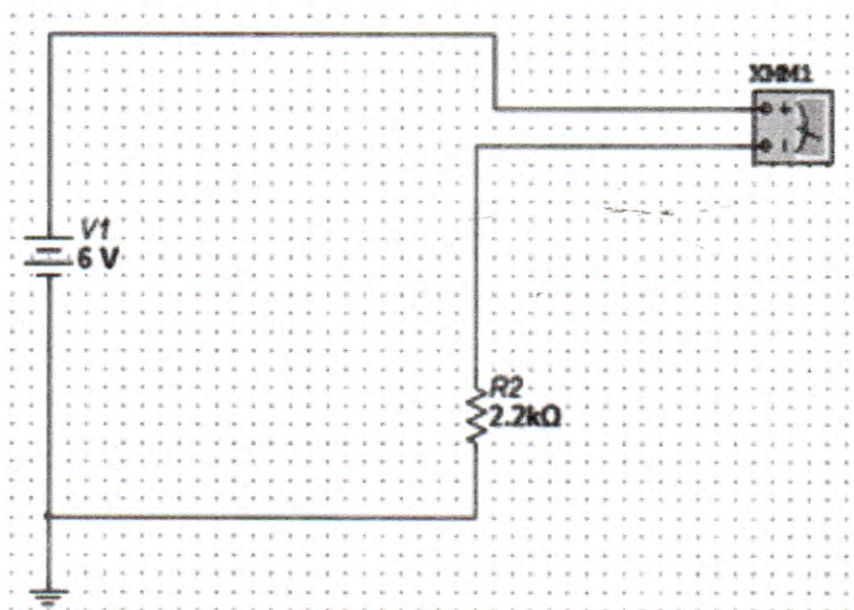

Figure 1.2: Current Measurement Circuit
3. In Figure 1.2, calculate the expected value of the ammeter reading.
- iii. Connect the circuit shown in Figure 1.2 on the breadboard, measure and record the current in the circuit using the digital multimeter set to the range that will allow you to obtain the maximum digits after the decimal point.